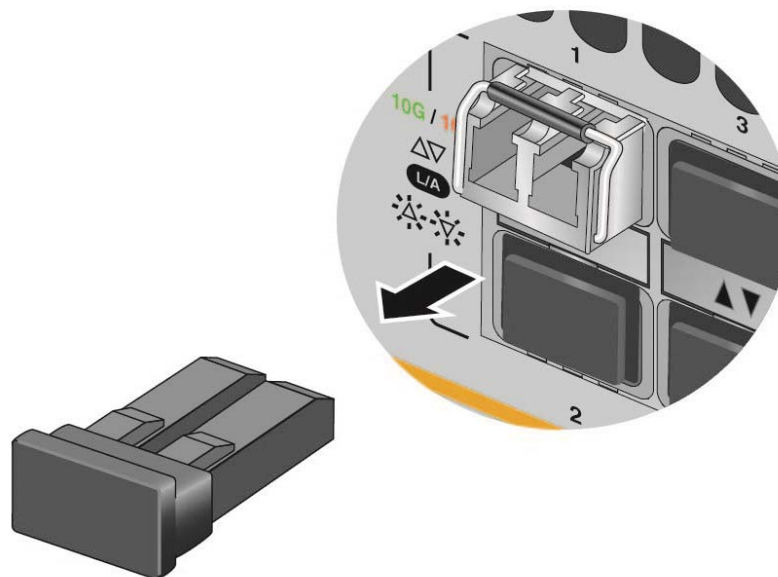

Figure 66. Removing the Dust Cover from an SFP or SFP+ Transceiver
6. Remove the dust cover from the transceiver, as shown in Figure 66.